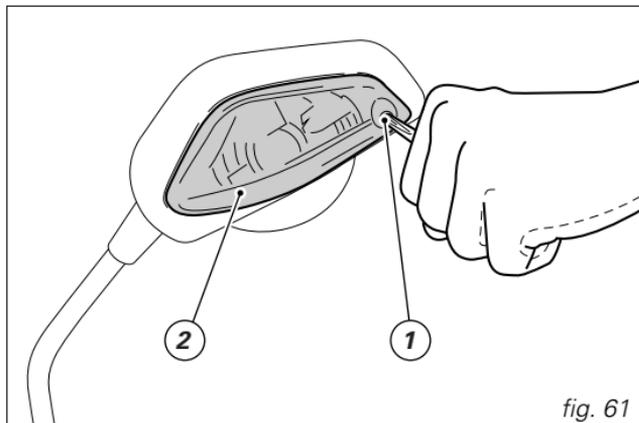

fig. 61
To change the bulb, undo the screw (1) and remove the indicator lens (2) from mirror body (fig. 61).